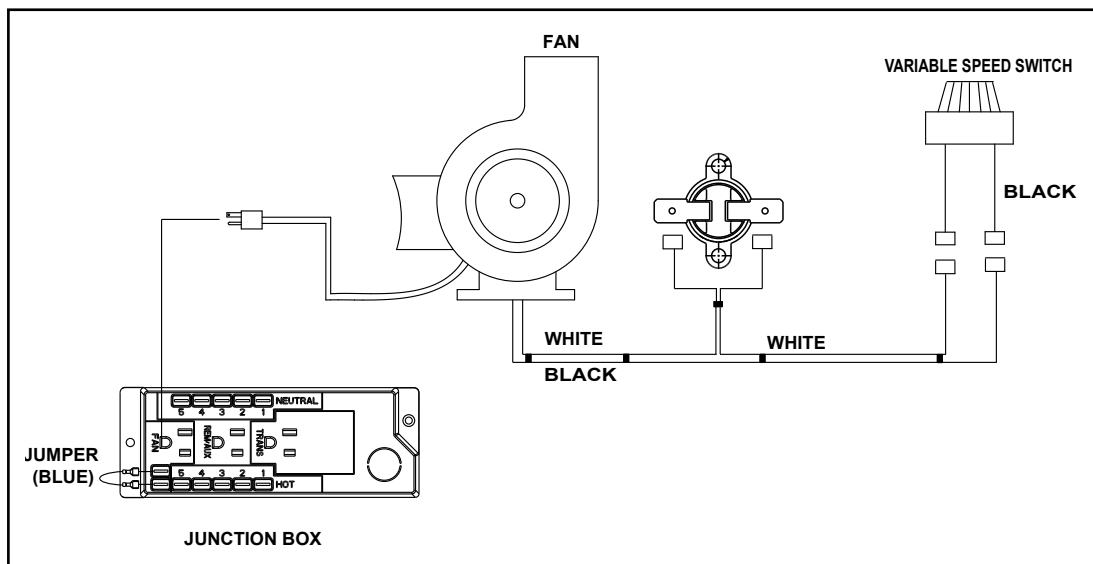

Figure 8.9 Fan Wiring Diagram
- Install the speed control (rheostat). The speed control mounts to the right rear corner of the component tray. Insert the stem of the speed control through the hole located on the right side of the cover. Secure with the pal nut using an 11/16 in. (17.5 mm) wrench. Attach the black and white wires routed under the appliance indicated in Figure 8.9 (wiring diagram), to the variable speed switch wires. Use the blue jumper wire provided in the appliance component bag to make the connection on junction box terminals as shown in Figure 8.9. Push the speed control knob onto the stem. Secure any extra wire up and out of the way using the zip tie provided.
- Plug the fan into the receptacle labeled "FAN" on the junction box. See Figure 8.9. The blower will not run until the appliance has heated up enough to activate the snap disc. This can take up to 15 minutes depending on the temperature of the room. Likewise, the blower will not automatically turn off until the appliance has cooled off enough to turn off the snap disc.